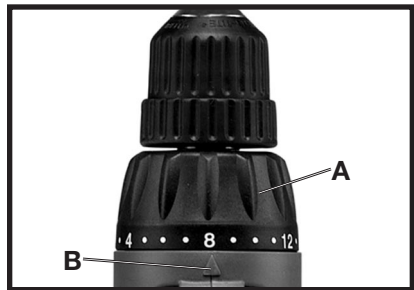

Fig. 3
The clutch unit provides twenty-three clutch settings plus a "Drill" (solid-lockup) setting. Lowest torque is available at setting #1, with maximum torque available at the "Drill" setting. The amount of output torque may be adjusted by rotating the front collar (A) Fig. 3, so that the desired torque setting is aligned with the index mark (B) Fig. 3.
(B) Fig. 3. In general, lower torque settings are used for driving small screws and other delicate work, while higher torque settings are used for driving larger screws. The "Drill" position is used for drilling and for driving very large screws.